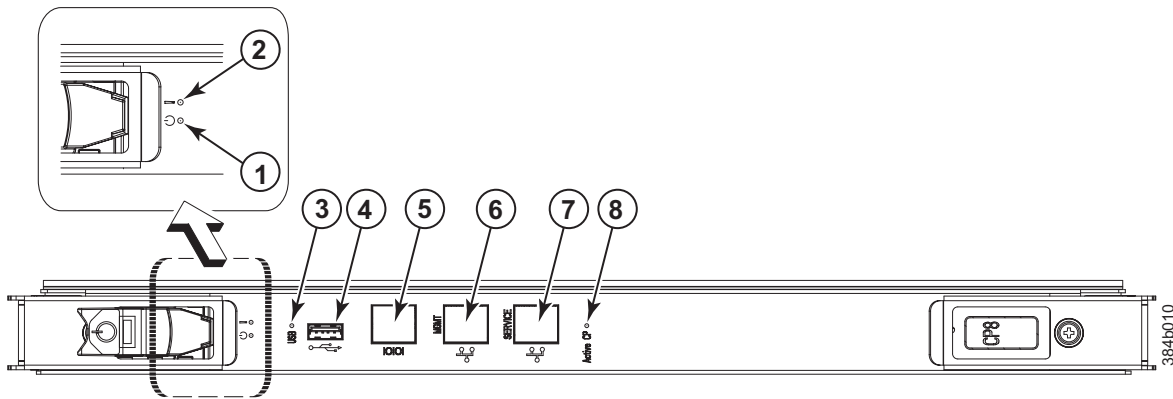

Figure 27. Control processor blade (CP8) ports and LEDs
1. Check the LED indicators on the CP blade (see Figure 27). The LED patterns may temporarily change during POST and other diagnostic tests. For information about how to interpret the LED patterns, see Table 10 on page 63.
Figure 27 shows the control processor blade (CP8) and component parts.